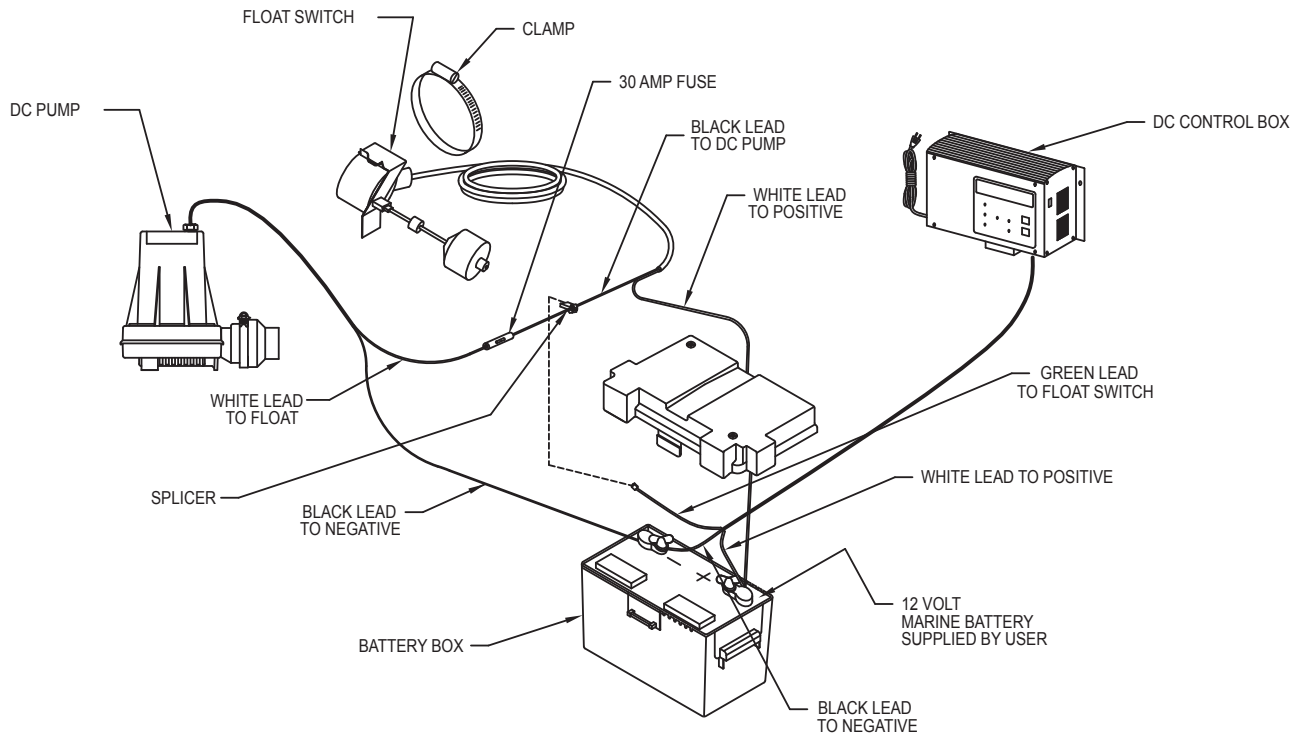

FIGURE 3
13. Connect the black lead from the pump to the negative (-) battery terminal. Connect the white lead from the pump to the black lead from the switch. This connection is made at the fuse installed on the switch wire (see figure 3). Connect the white lead from the switch to the positive (+) battery terminal.
14. Connect the green sensor wire to the sensor connector (figure 3).